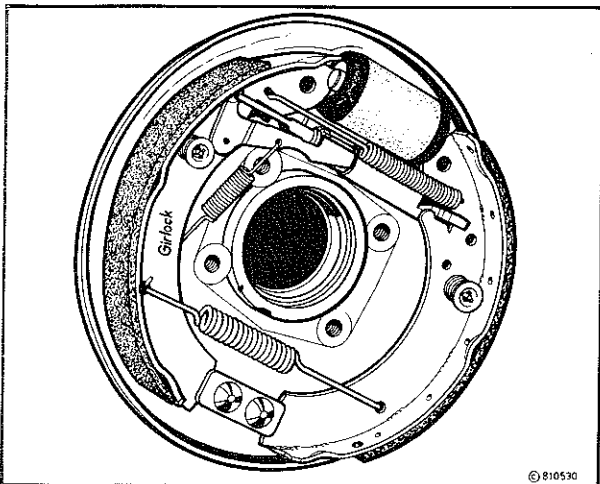

Fig. 7—Assembled brake components
(2) Assemble the automatic adjuster and install the leading and trailing brake shoe to the backing plate. Hold in position with the hold down pin and spring assemblies.
(3) Fit the lower shoe spring with the swan neck of the spring located in the trailing shoe. The top shoe spring is fitted with the long plain shank to the leading shoe, refer Fig. 7.
(4) Place the lever pawl onto the roll pin on the leading shoe, ensuring the short leg locates on the groove in the end of the automatic adjuster fork. The lever pawl spring is fitted with the longer shank between the shoe and back plate, refer Fig. 7.
(5) Offer the drum to the brake assembly and adjust the automatic adjuster until it is only just possible to fit the drum over the brake shoes.